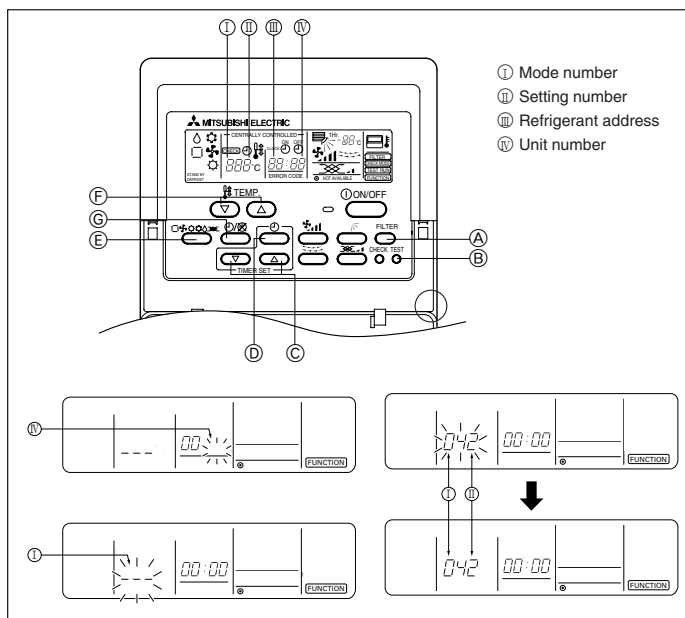

Fig. 6-5
6.3.1. For wired remote controller (Fig. 6-5)